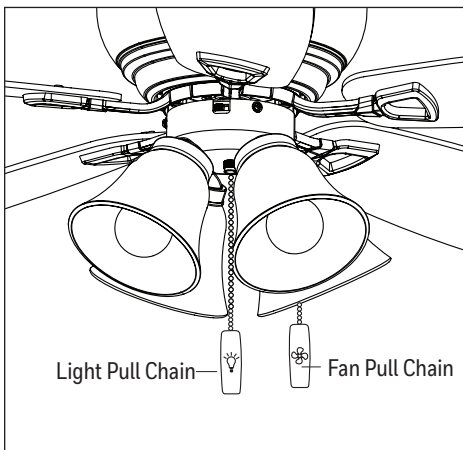

Figure 4.1
1. The fan pull chain has five positions to control fan speed. One pull is high, two is medium, three is low, four is very low and five turns the fan off. The light pull chain has two positions to control the light, on and off (Figure 4.1).